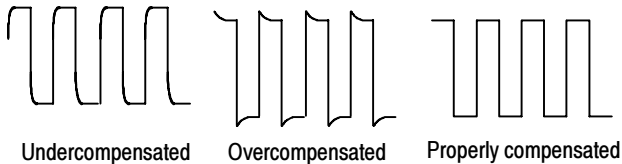

Figure 8: Probe compensation waveforms
4. Check for proper LF compensation: If a 1 kHz calibrated square wave displayed at 1 ms/division shows significant amplitude differences between the leading and trailing edges, perform the *LF Probe Compensation* procedure to optimize low-frequency compensation. (Use Figure 8 on page 22 as a guideline for proper LF compensation.)
8. Adjust the trimmer in the probe (accessible through the compensation box) until you see a square wave with a perfectly flat top on the display. Refer to Figure 8, below.